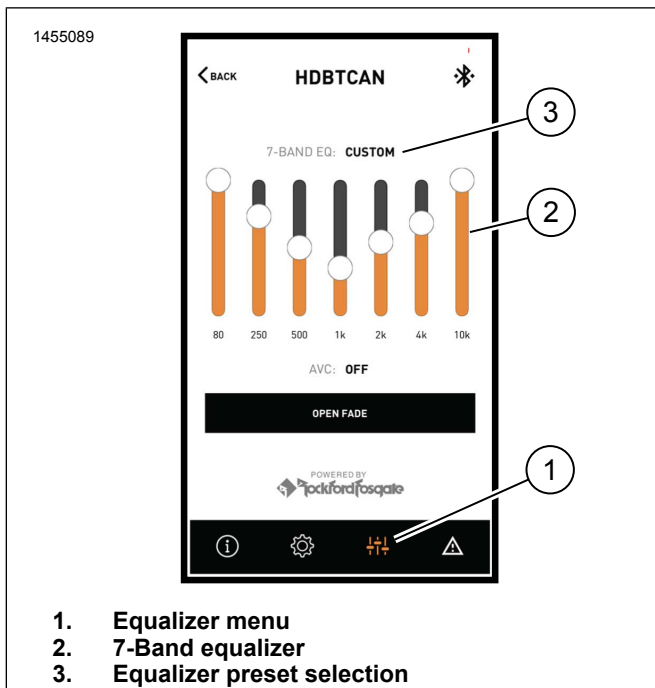

Figure 23. Equalizer Menu
4. See Figure 23. Equalizer setup screen.
- Equalizer setup icon (1)
- Tune 7-Band equalizer (2) frequencies.
- Custom or preset equalizer selections (3).